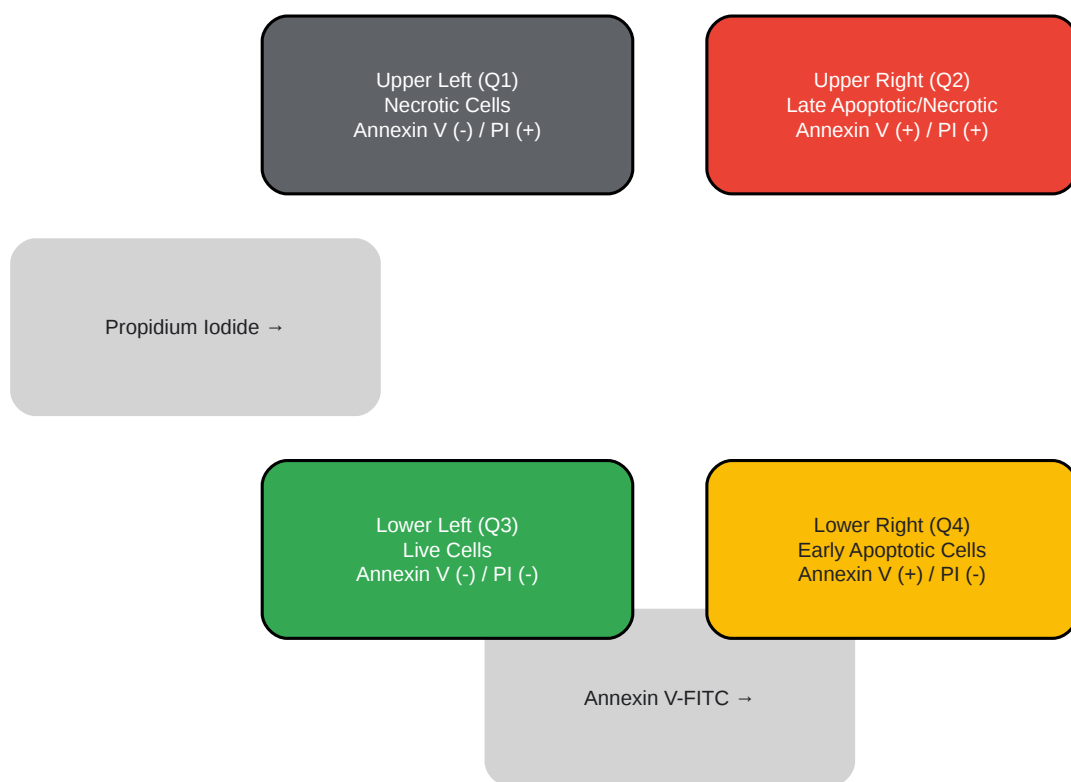

Figure 3: Interpretation of Annexin V/PI Flow Cytometry Data
- Data Interpretation: Use the single-stain controls to set compensation and the unstained control to define the negative population. Create a dot plot of PI (y-axis) vs. Annexin V-FITC (x-axis) and quantify the percentage of cells in each of the four quadrants as depicted in Figure 3.